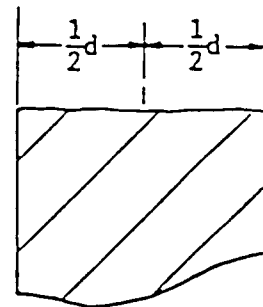

Figure 2-2. Segment Centerline
- * Locate the center line for each segment at $\frac{1}{2}d$ (Figure 2-2).